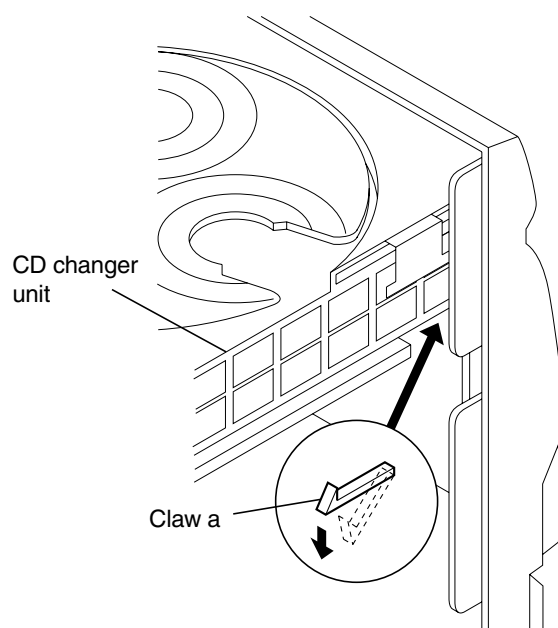

Fig.10
- Push down and disengage the two claws "a" holding the CD changer unit at the bottom of its front panel and then remove the CD changer unit (Fig. 10).